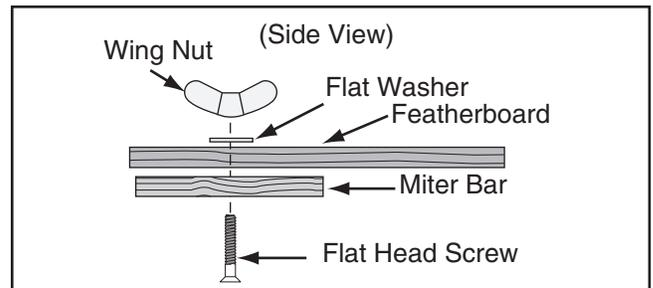

Figure 76. Assembling miter slot featherboard components.
8. Assemble the miter bar and featherboard with a $\frac{1}{4}$ "-20 x flat head screw, flat washer, and a wing nut or a star knob (see **Figure 76**). Congratulations! Your featherboard is complete.